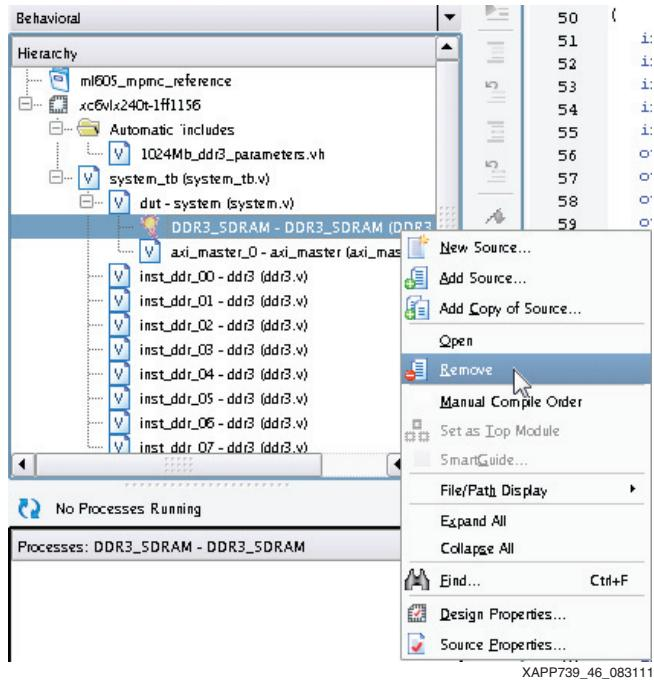

Figure 46: Removing a MIG XCO file from Project Navigator
34. In the Hierarchy pane, right-click and remove the `DDR3_SDRAM.xco` file. When prompted to confirm remove, click **Yes** (Figure 46).